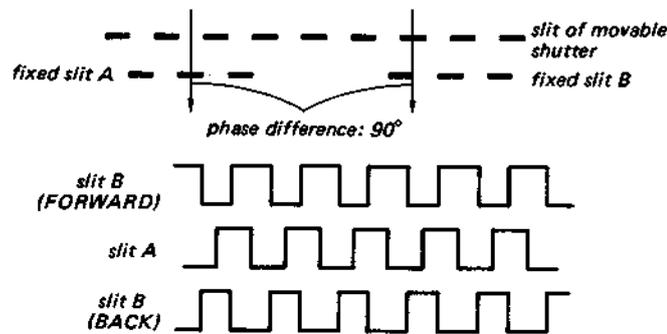

Fig. 5
**5. Drop-point and End Detection (see Fig. 5 and 6):**